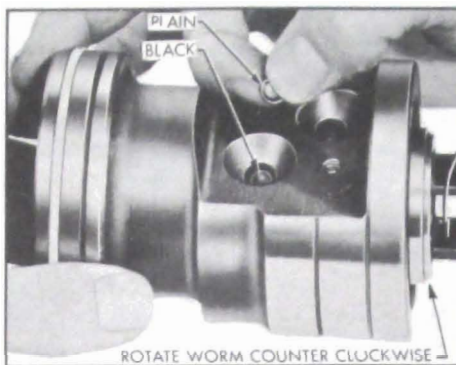

Figure 8-65—Loading Balls in Rack-Piston Nut
4. Align the ball return guide holes in the rack-piston nut with the worm groove. Load 16 balls, 8 plain and 8 black in alternate sequence into the guide hole nearest the piston ring while slowly rotating worm counterclockwise. See Figure 8-65.